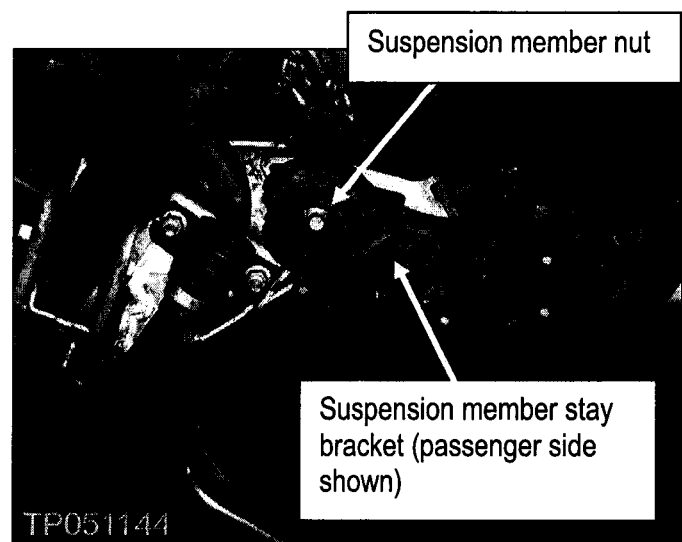

Figure 35
29. Remove the bolts and nuts that hold the suspension member "stay" brackets (see Figure 35). Then remove the stay brackets.